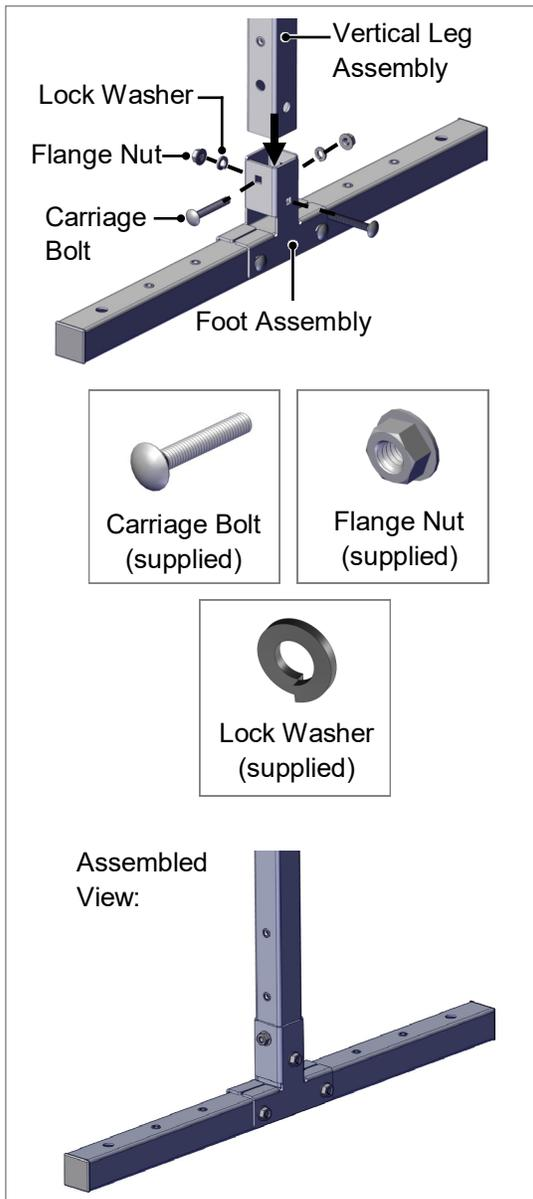

Fig 3. Insert Vertical Leg Assembly into Foot Assembly.
1. Insert the Vertical Leg Assembly into the Foot Assembly and secure with two (2) Carriage Bolts, two (2) Flange Nuts, and two (2) lock washers (Fig 3). Repeat this step on the other side.